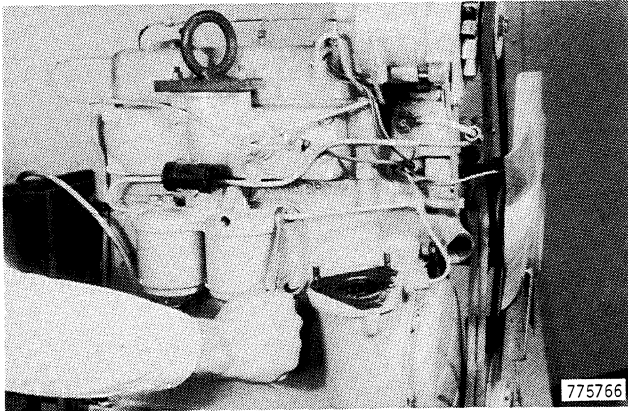

Figure 20
1. Disconnect the injector return tube from the fuel filter, Figure 20.